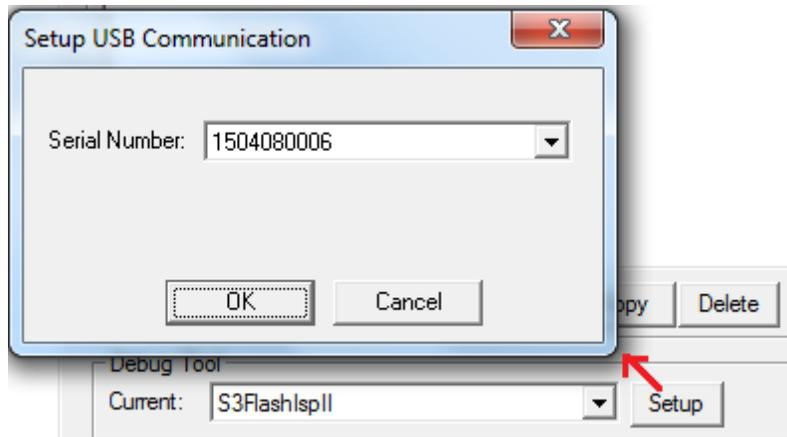

Figure 9. The Setup USB Communication Dialog
- After selecting **S3FlashIspII** from the Debug Tool drop-down menu, click **Setup** to select the serial number of the S3 Flash ISP II you are using, as indicated in Figure 9. Click OK to close the Setup USB Communication dialog box.
► **Note:** The serial number you see on your screen will be different from the serial number shown in Figure 9.